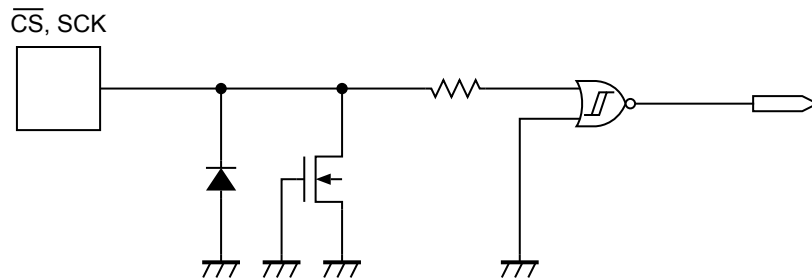

Figure 20  $\overline{CS}$ , SCK Pin
**Figure 20** and **21** show the equivalent circuits of input pins in the S-25C512A. A pull-up and pull-down elements are not included in each input pin, pay attention not to set it in the floating state when you design.